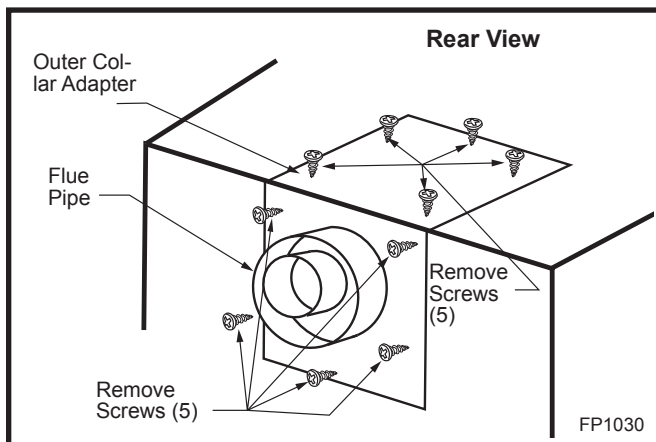

Fig. 9 Remove screws from outer collar adapter.
1. Remove the 10 screws securing the outer collar adapter to the fireplace body. (Fig. 9)